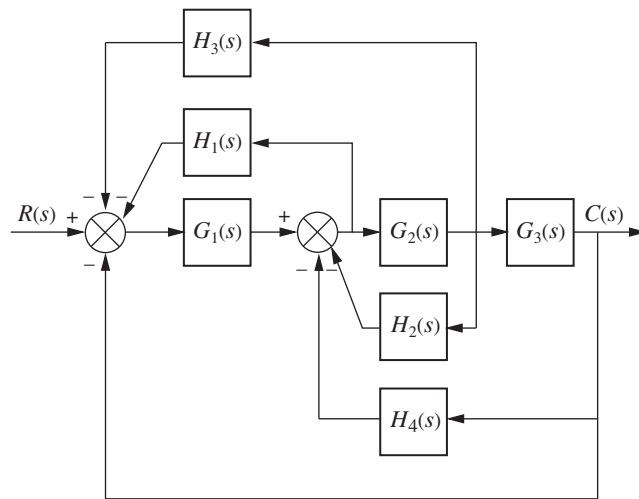

FIGURE I-5.5
5. Reduce the block diagram shown in Figure I-5.5 to a single block representing the transfer function,  $T(s) = C(s)/R(s)$ . [Section: 13.2]